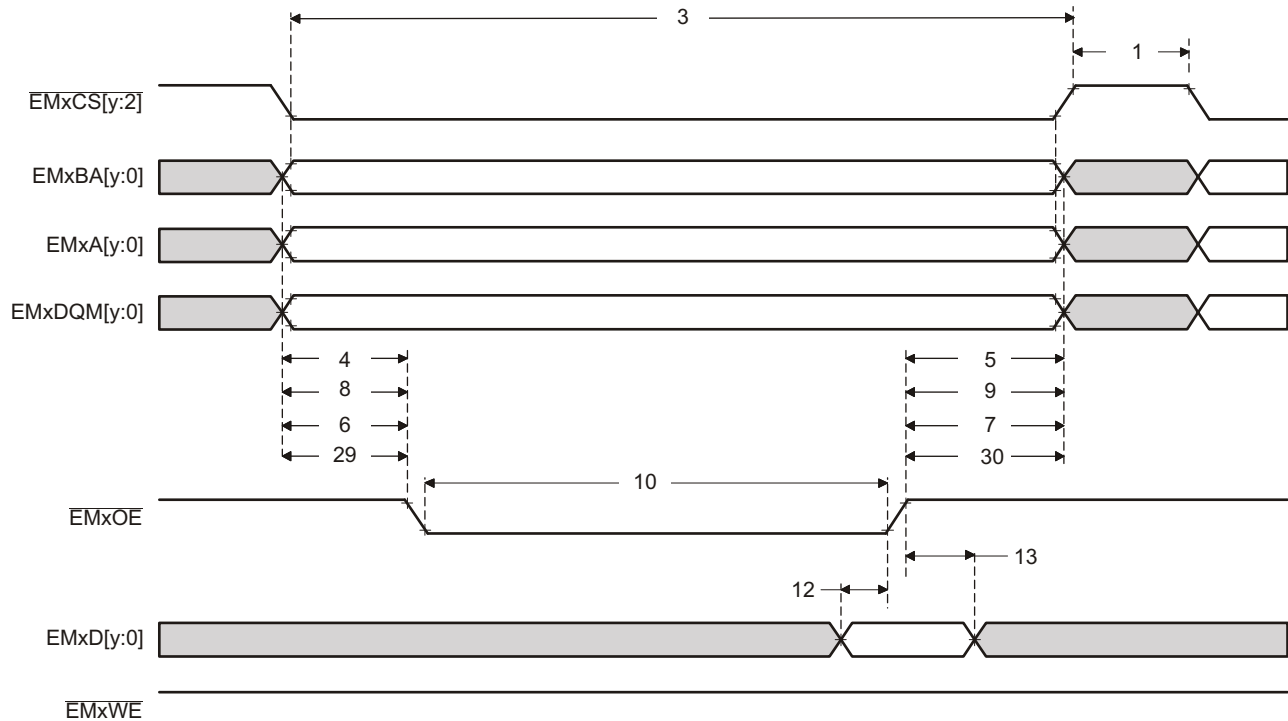
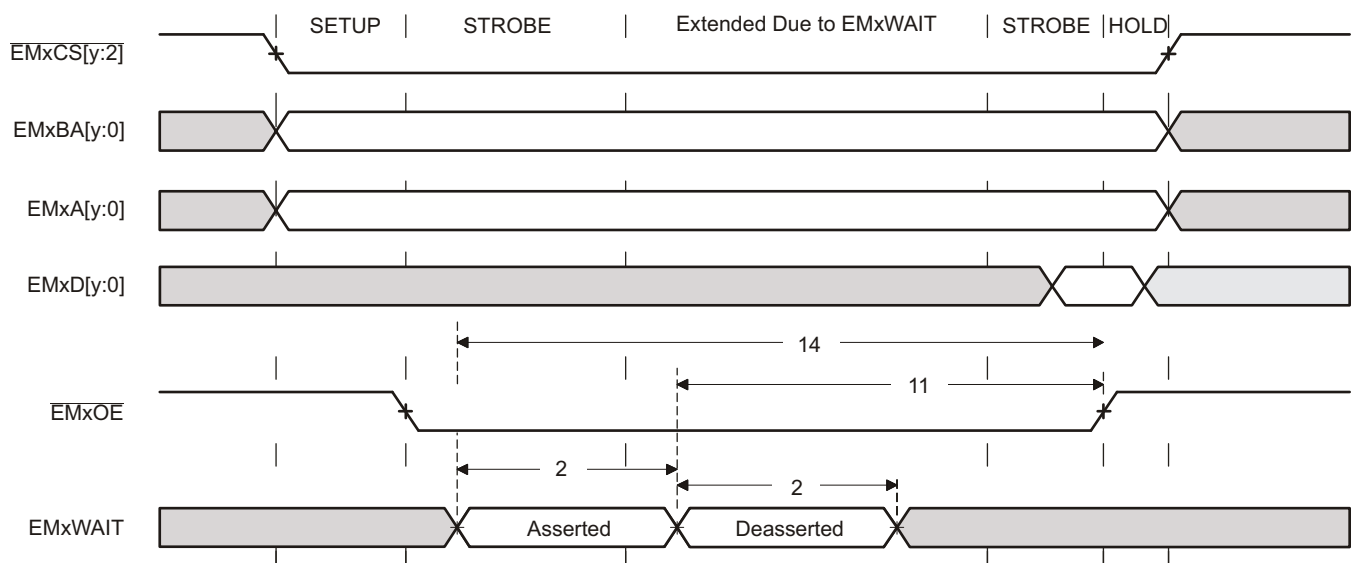
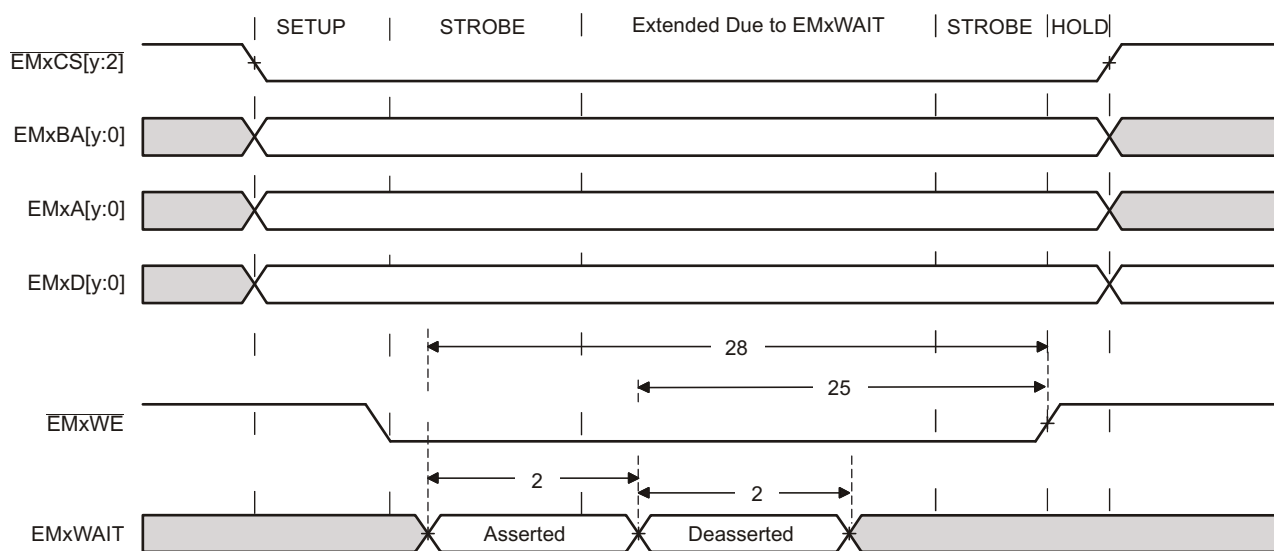

Figure 5-21. Asynchronous Memory Read Timing
Figure 5-22. EMxWAIT Read Timing Requirements
Figure 5-24. EMxWAIT Write Timing Requirements
Table 5-39 shows the EMIF asynchronous memory timing requirements. Table 5-40 shows the EMIF asynchronous memory switching characteristics. Figure 5-21 through Figure 5-24 show the EMIF asynchronous memory timing diagrams.
- (1) Setup before end of STROBE phase (if no extended wait states are inserted) by which EMxWAIT must be asserted to add extended wait states. Figure 5-22 and Figure 5-24 describe EMIF transactions that include extended wait states inserted during the STROBE phase. However, cycles inserted as part of this extended wait period should not be counted; the 4E requirement is to the start of where the HOLD phase would begin if there were no extended wait cycles.